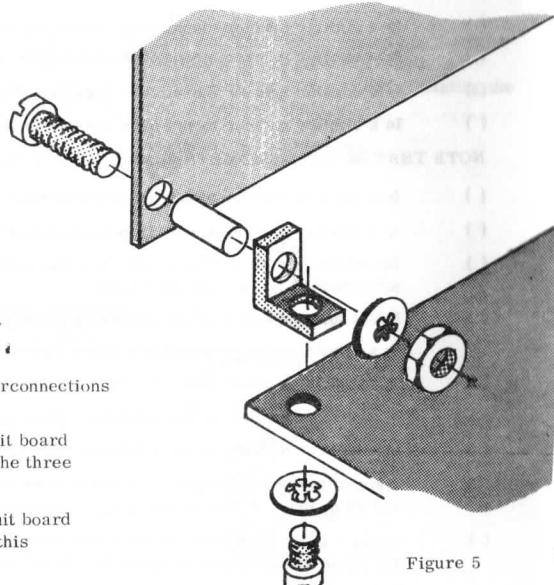

Figure 5
- () Fasten the two "L" brackets to the front panel using one 1 inch 4-40 screw, one 3/4 inch spacer, one lockwasher and one 4-40 nut on each bracket as shown in figure 5. Note that the unthreaded hole in the "L" bracket is used in this operation.